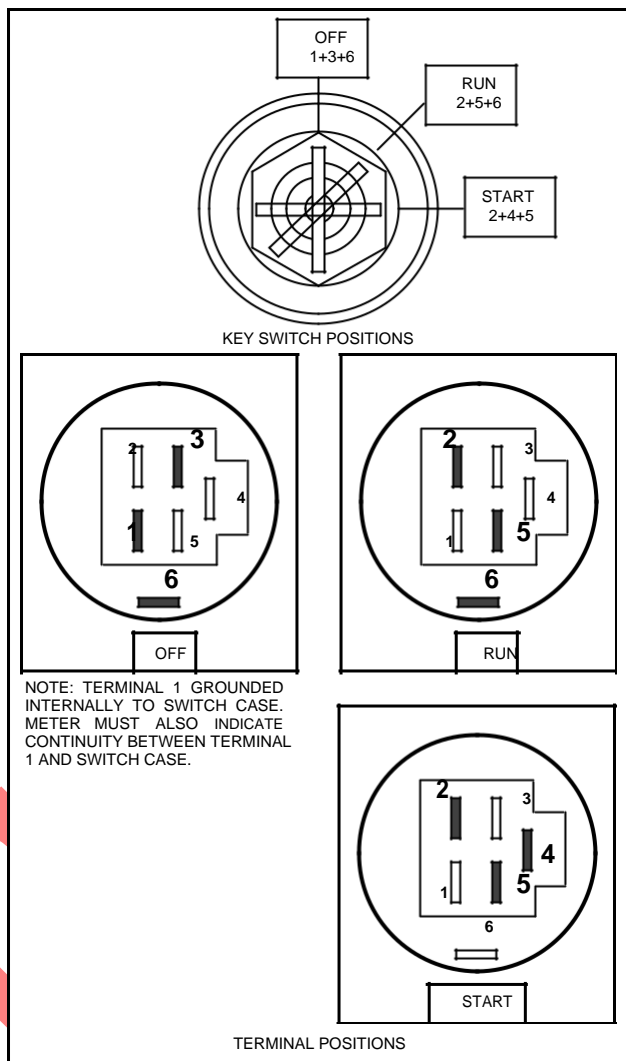

Fig. 111 – TESTING KEYSWITCH
4. Meter must indicate continuity between terminals with keyswitch in position shown. See number sequence of terminals shown in Fig. 111.